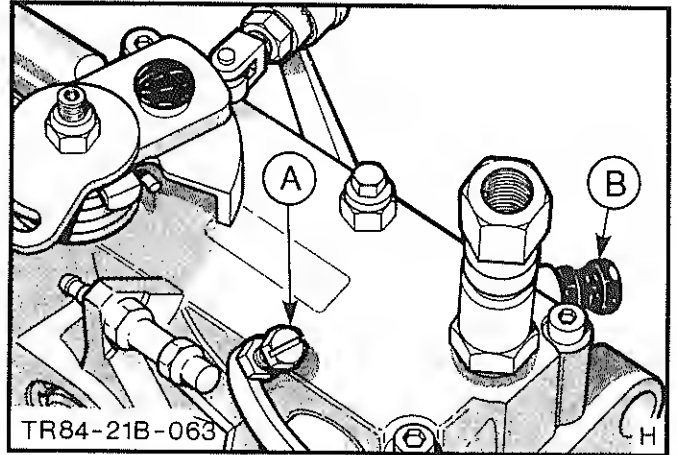

Fig.43. Anti-stall screw (CAV).
- Remove tamper proofing by cutting off with knife. (B in Fig.43.)